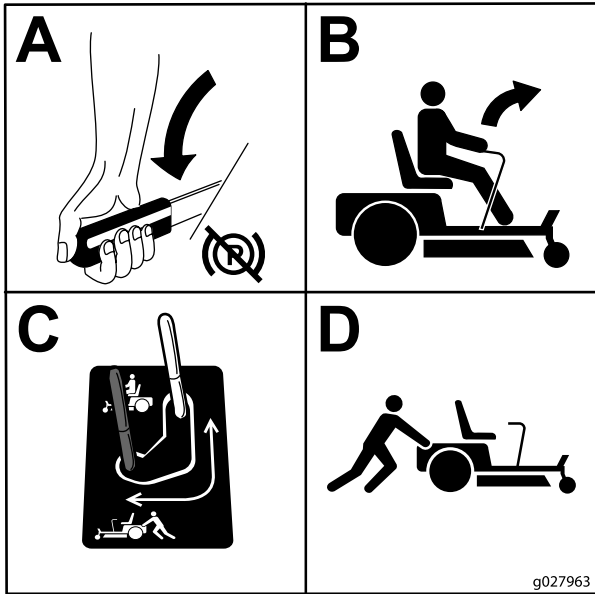

Figure 28
- To push the machine, move both bypass levers rearward and out to lock them into place (Figure 28).
- To run the machine, move the bypass levers to the FORWARD position (Figure 28).